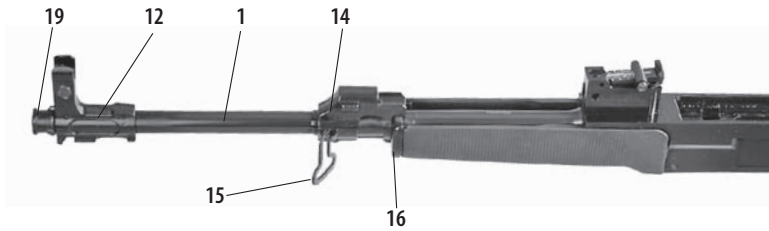
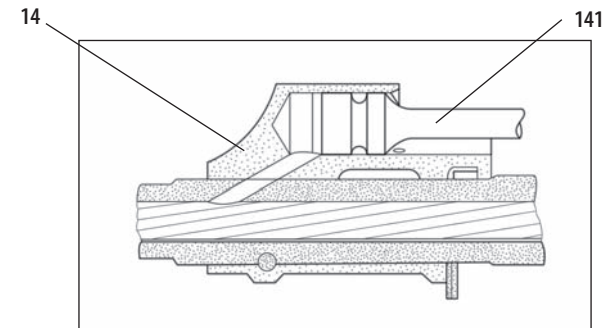

Fig. 3 **Barrel assembly /general view/**
Fig. 6 **Gas adapter /sectional view/**
**The Barrel** 1 (Fig. 3) is intended to direct the projectile's flight. The barrel bore has a right handed twist with four grooves, which produces the four **fields of the rifling**. The barrel is pressed in to the receiver and locked with a pin.
Muzzle has an M14 x 1 twist and is protected by a **muzzle nut 19** (Fig. 3).
Approximately at the half way point of the barrel length is an inserted **gas adapter 14** (Fig. 6) which is locked by means of the pin. In the upper part of the gas adapter is a cavity that forms the gas cylinder. A portion of the powder gases is conveyed from the barrel through the gas adapter to the gas cylinder. The powder gases flow to the gas cylinder through the gas channel which connects the bore with the gas cylinder space. At the half way point of the length of the lower part of the gas cylinder wall, two openings pointing obliquely downward along both sides of the barrel are drilled. The powder gases escape from the gas cylinder through those openings after the piston, moving backwards, has passed more than half the gas cylinder length. On the left-hand side of the gas adapter is the opening for the front swivel 15 (Fig. 3). Both sides of the gas cylinder front part are provided with lugs with grooves into which the upper handguard jacket tips are to shift. The rear part of the gas adapter forms a catch by which the lower barrel guard front hoop is held. Half of the gas cylinder upper wall is cut off for shifting in and out of piston.